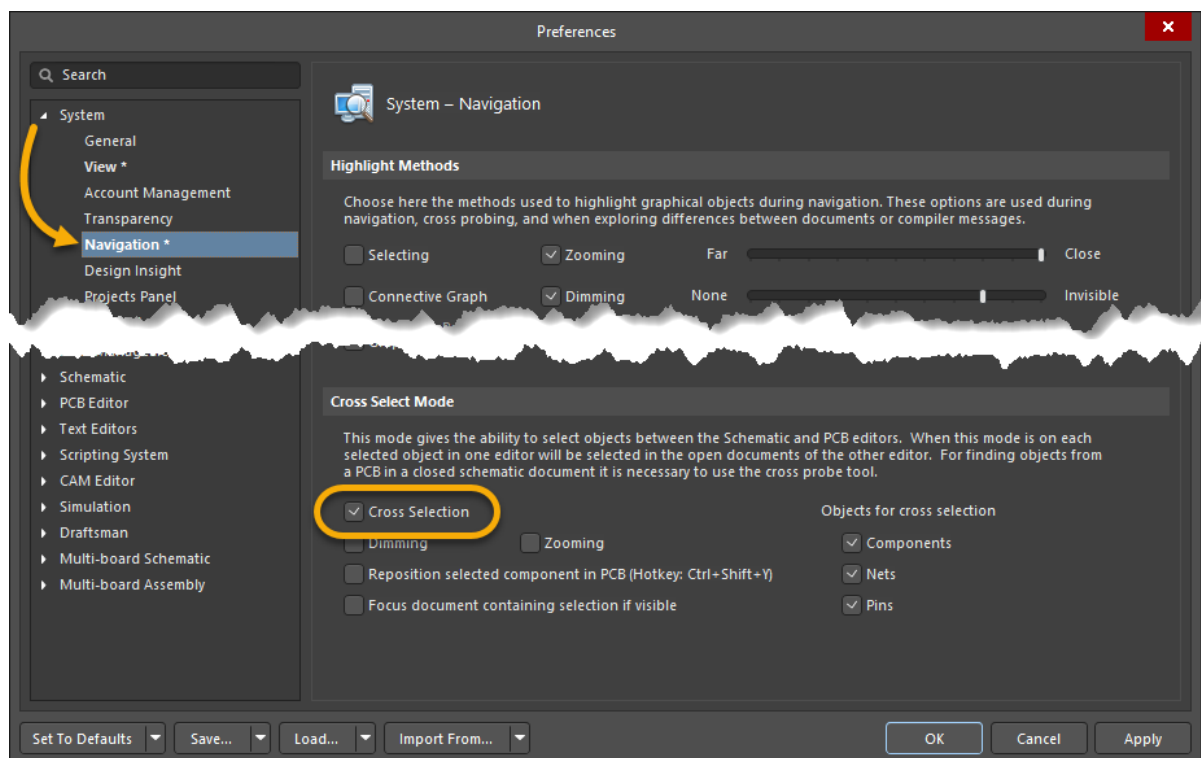

Figure 6. Preferences - Cross Selection
27. Verify that cross-select mode is enabled within the *Preferences*, Figure 6.